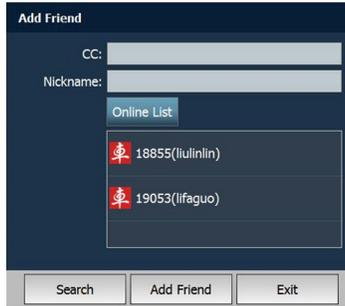

Fig. 10-3
- 2) To view the online CC users, click "Online List", a screen similar to Fig. 10-3 will appear: